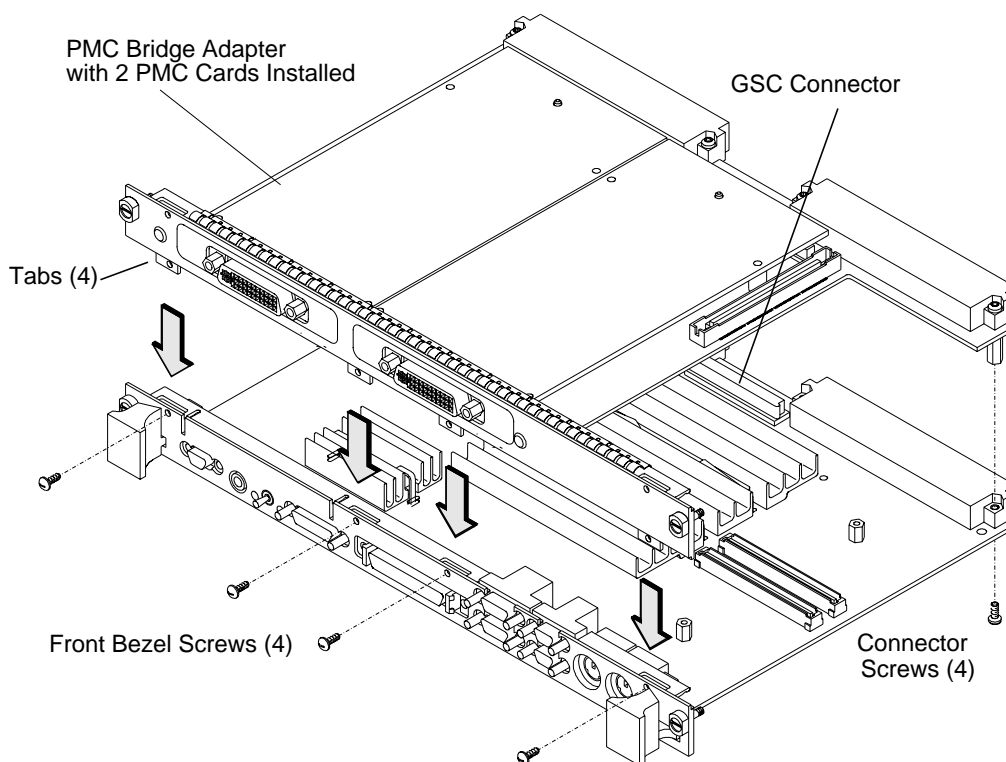
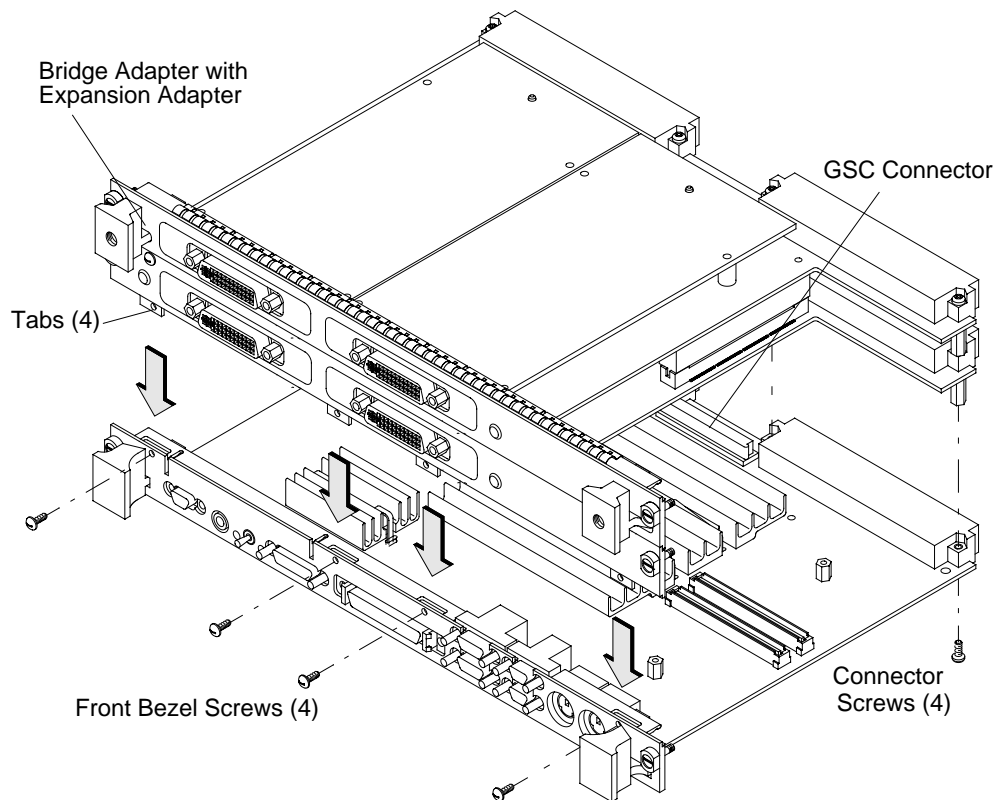

Figure 4
Figure 5 **Installing the Bridge Adapter with the Expansion Adapter onto the SBC**
- 10 Install the PMC bridge adapter (as shown in Figure 4) or the bridge adapter with expansion adapter (as shown in Figure 5) onto the SBC. Align the GSC connector first, then the tabs on the front panel, and push the boards together. There are four screws that secure the front bezel, and four screws that secure the backplane connectors.